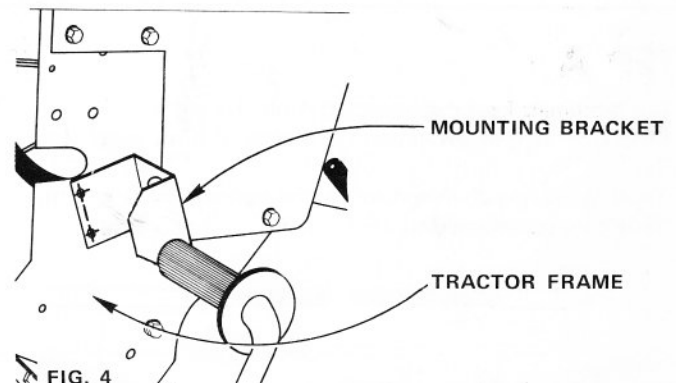

FIG. 4
2. Using the Mounting Bracket as a template mark hole locations on left side of tractor frame (Fig. 4).